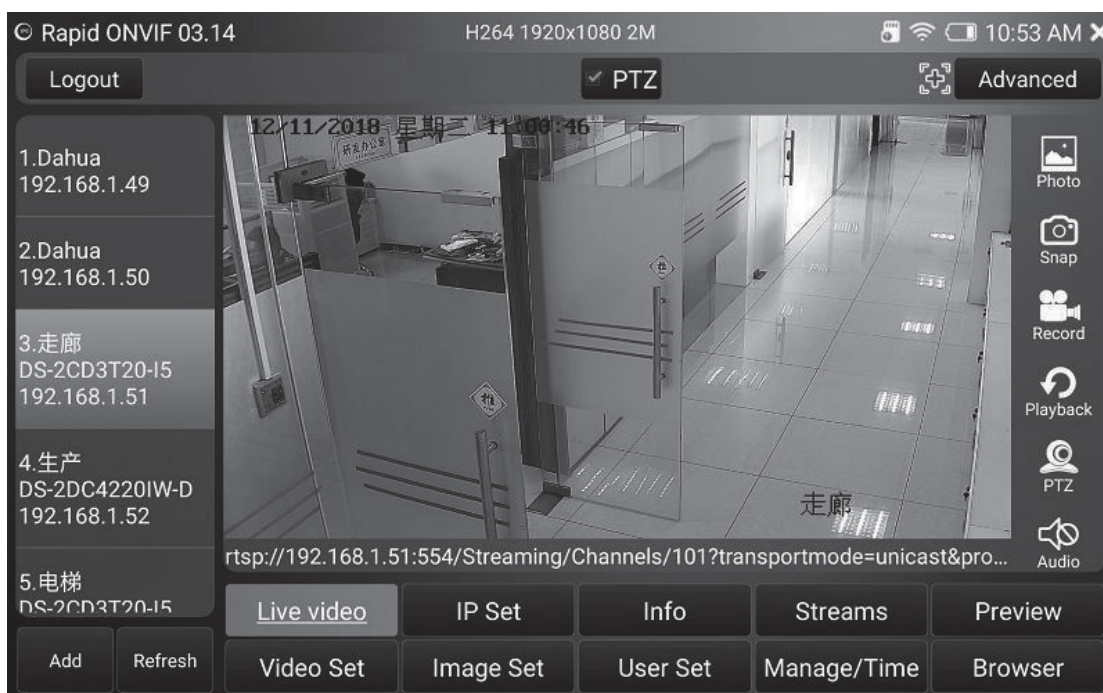

Figure 14
2) Select the camera to be operated, touch it on the left to display image directly, it can display 4K H265, H264, MPEG4 format video, as shown in Figure14.